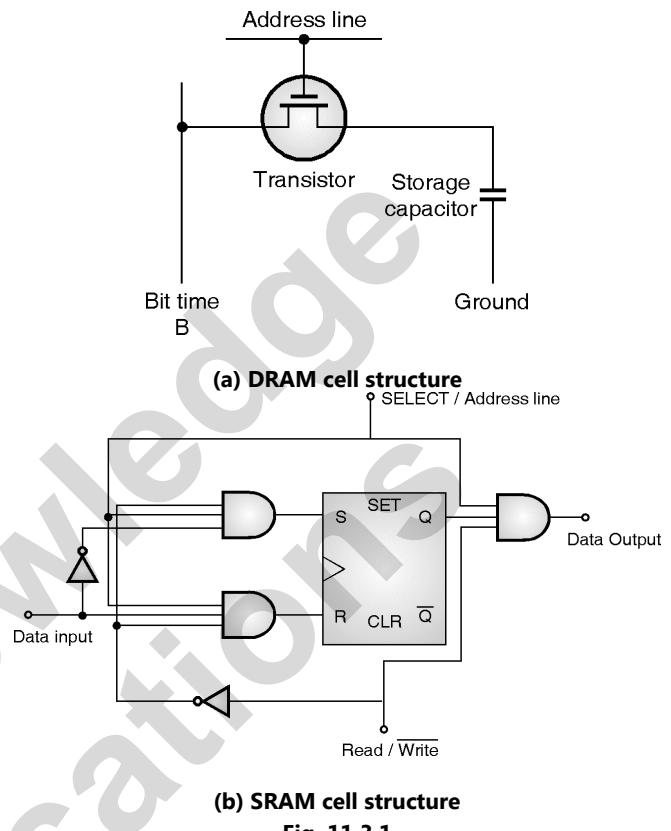

Fig. 11.3.1
- But it is slower than SRAM, because capacitors require time for charging and discharging. Also the capacitors loose charge in some time and hence need to be recharged according to the data, this is called as refreshing the DRAM. Fig. 11.3.1(a) shows the structure of a DRAM cell.
- Thus it is also costlier. But the advantage is that it doesn't require any refreshing and is also very fast compare to DRAM. Fig. 11.3.1(b) shows the structure of the DRAM cell.